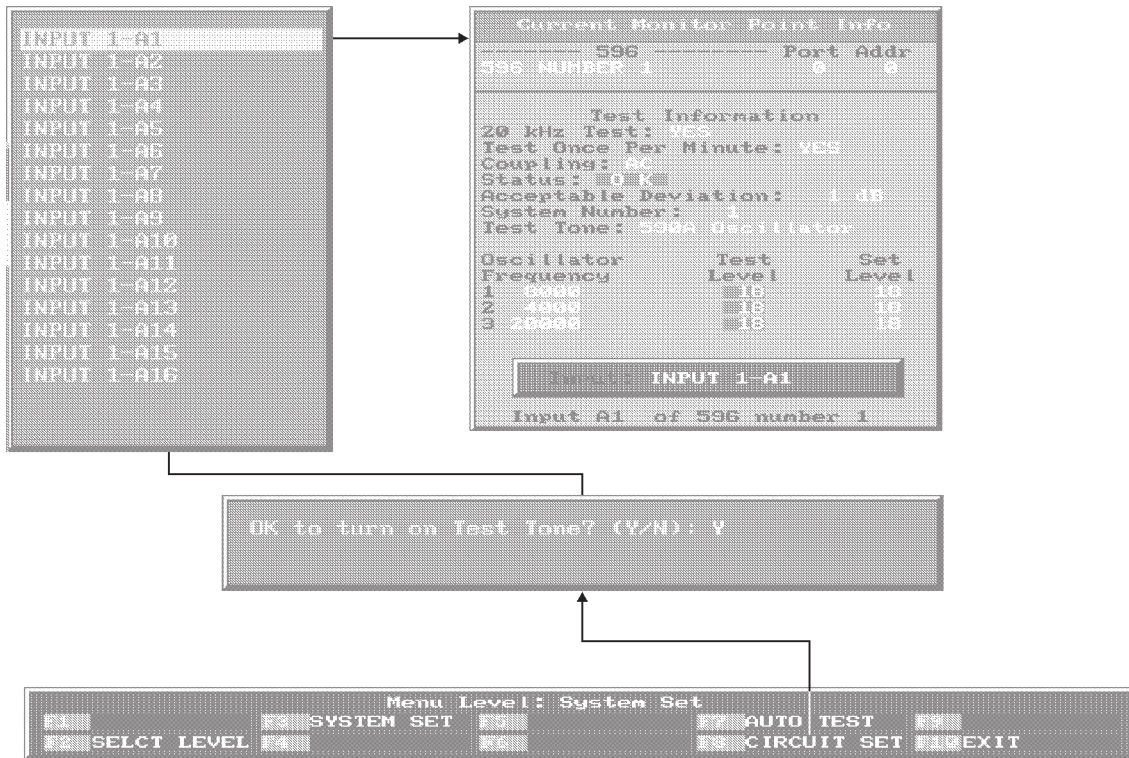

Figure 18 - System Set Menu
To perform a Circuit Set, press the function key associated with the 'Circuit Set' function in the 'System Set' menu. Since in a circuit set audible tones are introduced into the system, and the system becomes busy during the procedure, a confirmation window appears first asking 'OK to turn on Test Tone? (Y/N) :'. Type 'Y' to continue, or 'N' to abort the circuit set. A selection list window appears, displaying up to 18 circuits. Use the up and down arrow keys and the 'Pg Up' and 'Pg Dn' keys to move the cursor (yellow bar) to the desired circuit. The 'Home' key moves the cursor to the beginning of the list, and the 'End' key moves it to the end of the list. When the cursor is at the desired circuit, press 'Enter'. This starts the test. As the Circuit Set is progressing, the information regarding the test and the test point is displayed in the 'Current Monitor Point Info' box (see figure 18, and figure 1, item 1).
*Phone: (502) 267-7436 • Fax: (502) 267-9070 • Internet: <http://www.iedaudio.com>*